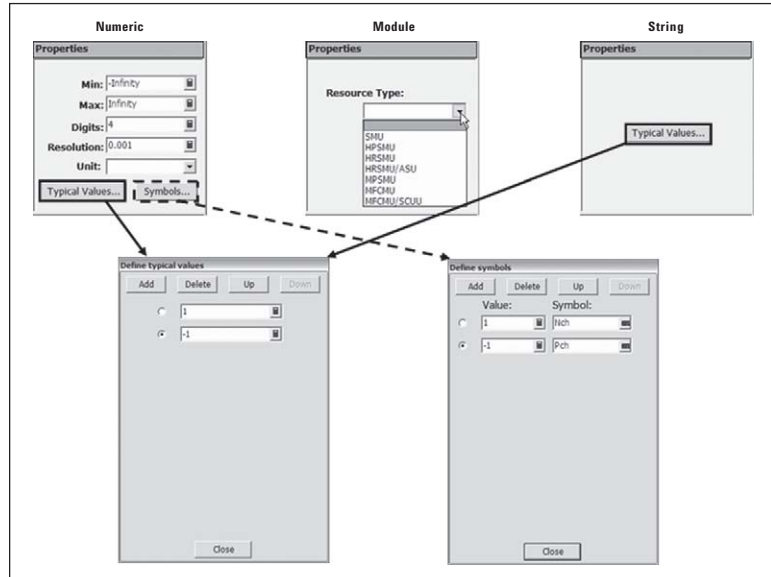

Figure 14. Numeric, Module and String Properties windows.
1. Click Typical Values in the first Properties window, shown in Figure 14. The Define Typical Values window appears
1. Click Symbols in the first Properties window, shown in Figure 14. The Define Symbols window appears.
In Step 3, three types are listed under Test Parameters. These three types can be selected from the pull-down menu of the Type entry field, and can be chosen from Numeric, Module or String. Each property type uses a different method for setting the properties as shown in Figure 14. In the case of the Numeric type, it uses the same method as the entry of the Device Parameters. In the case of the Module type, the Resource Type is selected from the pull-down
menu of the Properties entry field, also shown in Figure 14. For the String type, only a Typical Values button is available. The entry uses the same method as the entry of the Device Parameters.